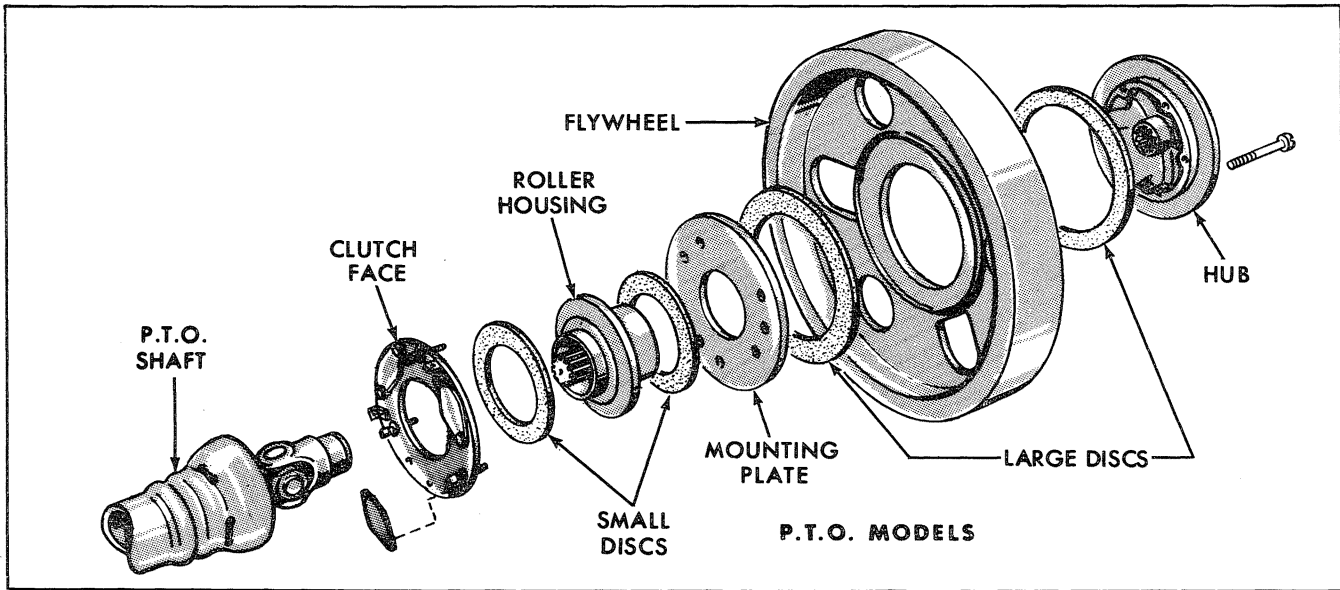

Figure 93
P.T.O. Models: In the event that it is necessary to replace the clutch discs, refer to Figure 93, and proceed as follows: